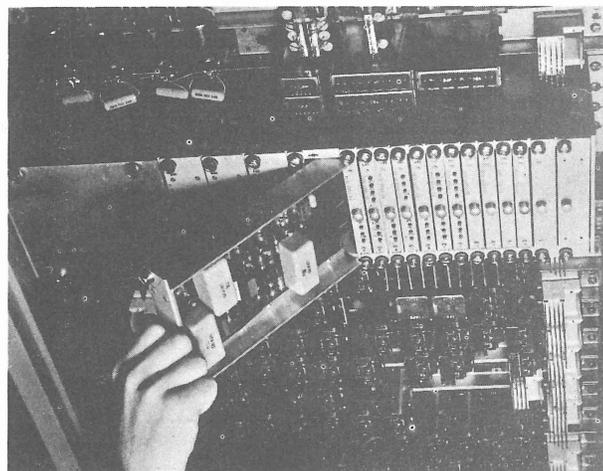

Fig. 1 — Equipment Packaging
1.02 The equipment packaging of the FSP transmitter is done on removable printed wiring assemblies that are referred to as circuit packages (CPs). The board has printed wiring on one side only, is 1/16 inch thick, approximately 5 inches wide, and 8-1/2 inches long. One end of the board forms a 20-terminal plug that mates with a 906B connector. The board is riveted to an extruded aluminum frame which provides protection for both the board and components. The frames are provided in widths of 0.550, 0.850, 1.150, and 1.450 inches. A faceplate, the same width as the frame, is attached to the front of the frame. The faceplate overlaps the frame by 1/2 inch at top and bottom and mounts quarter-turn fasteners to secure the assembly in the equipment tray. Test points are provided in the faceplate to facilitate testing under actual circuit conditions. A knob is provided for removing the circuit package assembly. (See Fig. 1.)